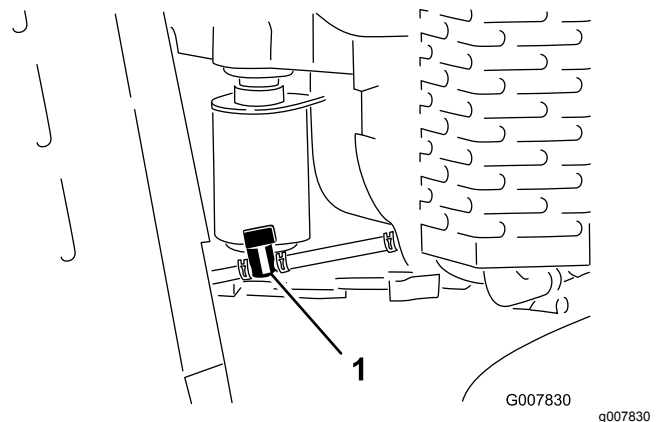

Figure 35
3. Turn the fuel-shutoff valve to the closed position (Figure 35).
4. Squeeze the ends of the hose clamp on the engine side of the valve together and slide it up the fuel line away from the valve (Figure 35).
5. Pull the fuel line off the valve (Figure 35).